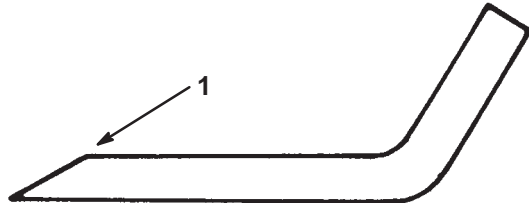

Figure 22
1. Use a file to sharpen the cutting edge at both ends of the blade (Fig. 22). Maintain the original angle. The blade retains its balance if the same amount of material is removed from both cutting edges.